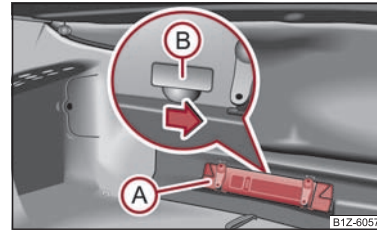

Fig. 28 Emergency unlocking of the boot lid
- Take out the warning triangle\* (A) ⇒ fig. 28.
- Press the operating lever in the direction of arrow in order to unlock the boot lid. The operating lever is located under the panel (B).